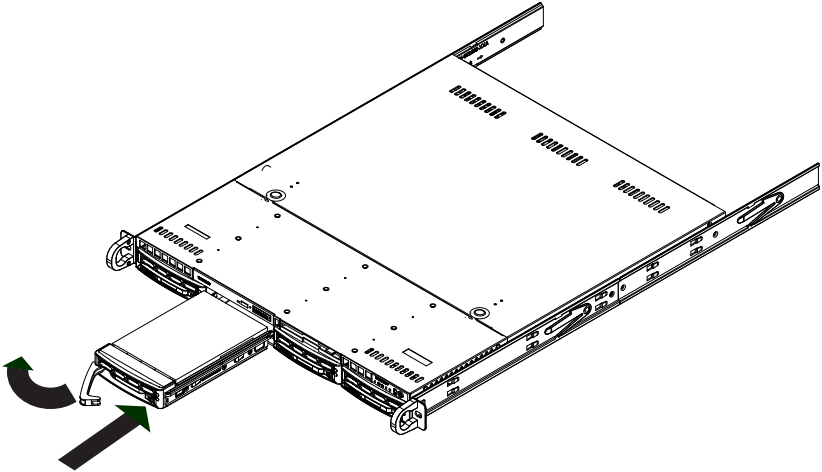

Figure 6-4. Removing a Drive from the Server
2. Secure the drive to the carrier with six screws, as shown in Figure 6-4.